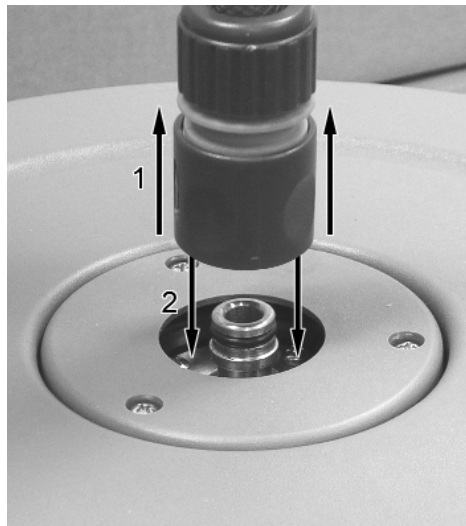

fig 2
- 3.2.4 Use the quick-release mechanism to attach the inlet hose to the hose reel inlet (fig 2).